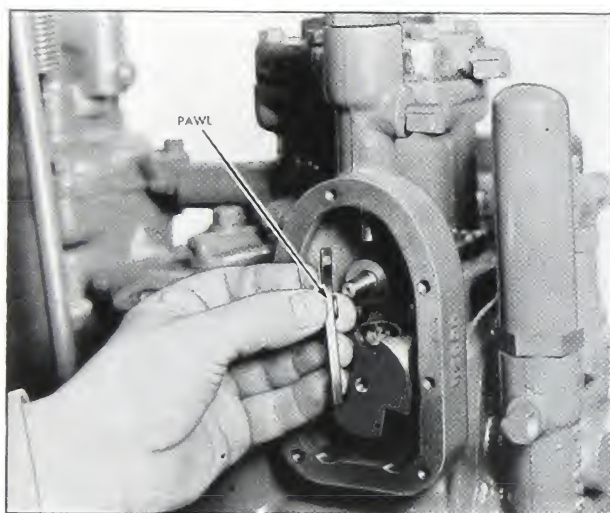

Fig. 5-167. Installing pawl
5. Assemble the pawl and spring over the pin. See that the pawl fits under the valve stem in proper position. Shift the pin in the housing, if necessary, to align properly. Fig. 5-167.